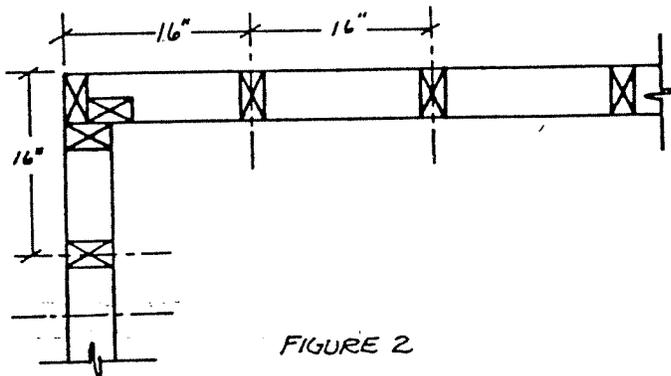

FIGURE 2
2. While bottom plates are still tacked in place, mark location of all major openings (make sure it's a rough, clear opening) on all plates. Then lay out all stud locations, which are generally 16 in. on center. Start on one exterior corner, and with a tape, measure and mark the location of each stud (Figure 2). Remember that most plywood sheathing and siding panels are 48 in. wide, so the dimension from the outside of the corner to the centerline of the first stud from that corner should be 16 in. Extra studs needed at wall intersections and those required to carry special loads at door openings should also be noted and marked.